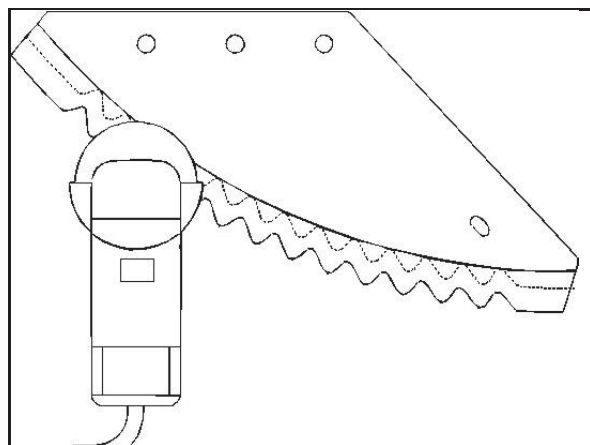

Fig. 280
- Use a right-angle grinder with a flap grinding wheel (Fig. 280) when grinding the cutting knives.